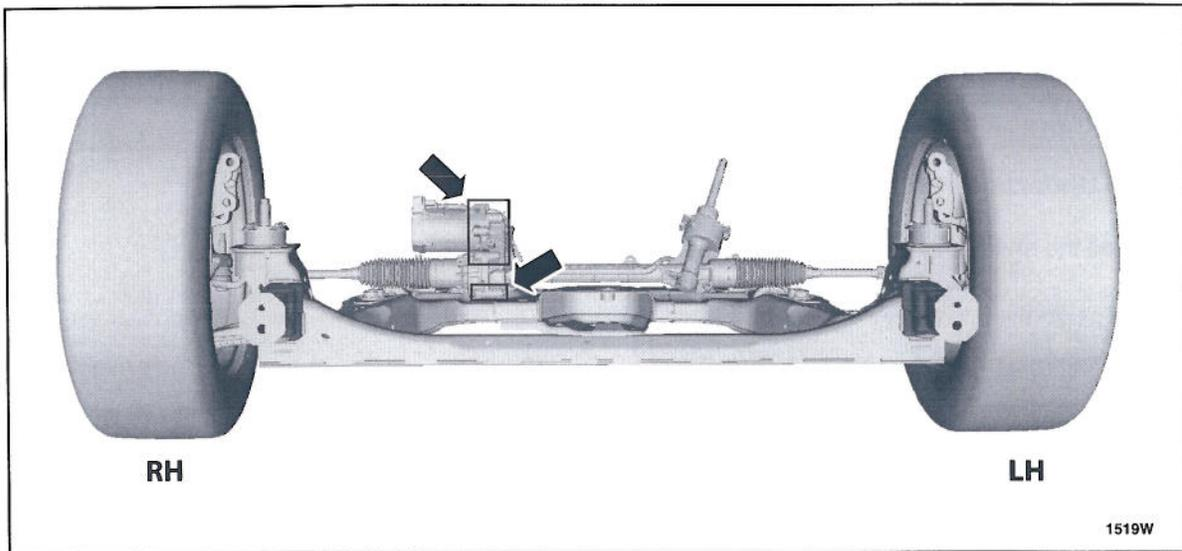

FIGURE 18
4. Working from the front of the subframe, insert nozzle between steering gear and subframe housing seam. Apply sealant to gear motor bolts one and two, steering gear to housing seam, housing bolts five, six and seven heads, threads and thread holes. See Figures 18 and 19.